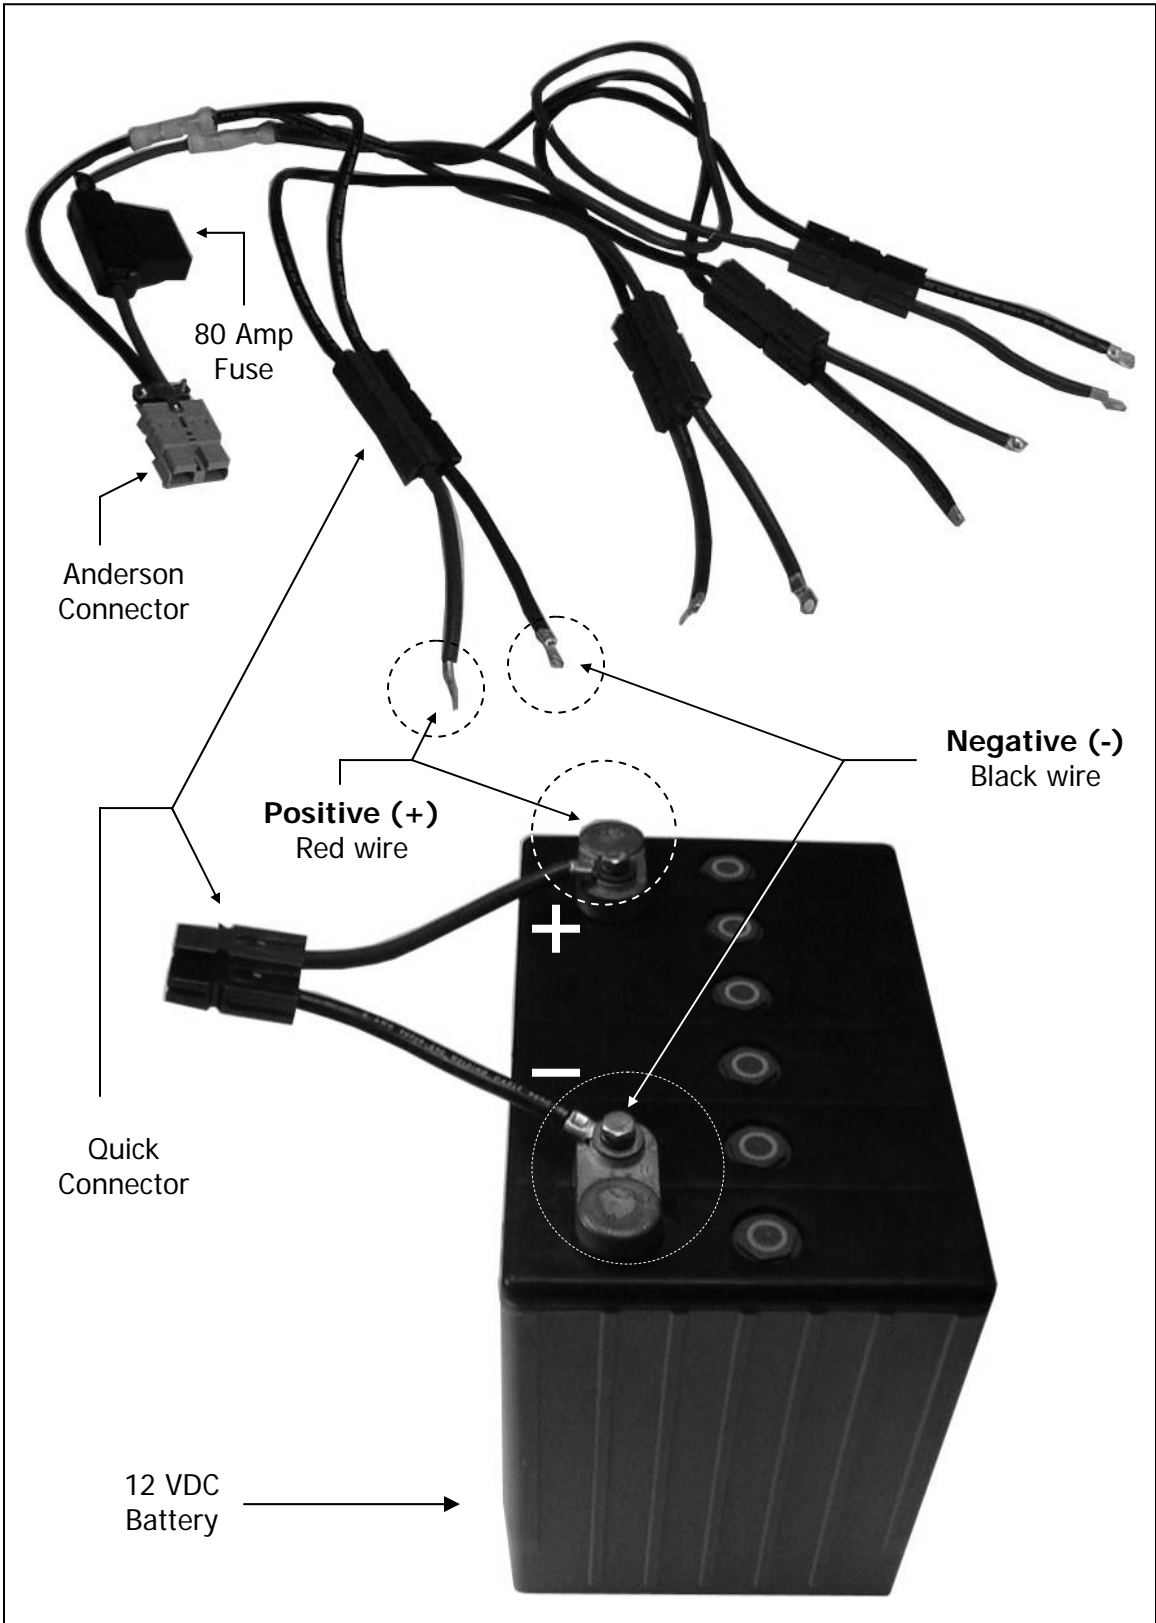

FIGURE 8: Absorbent Glass Mat (AGM) battery and quick connector battery cable
- Refer to Figure 8. Using one of the four quick connector wire sets provided connect the red wire to the positive post of the first battery. Connect the black wire to the negative post of the same battery.